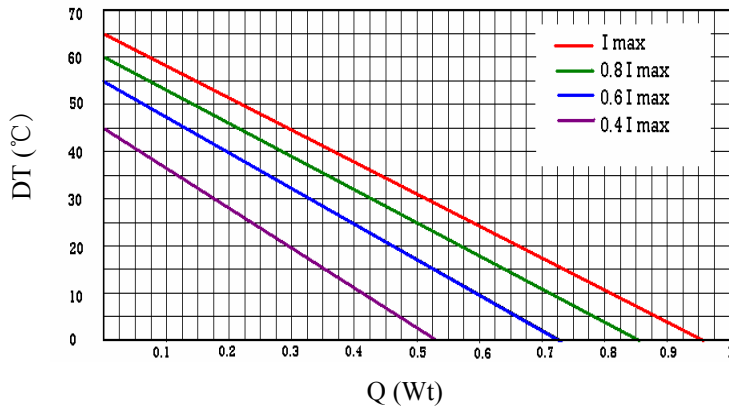
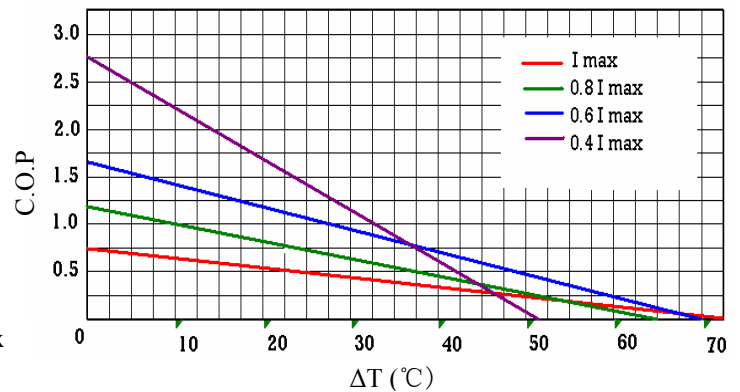

Figure 2. Thermal Load vs. DT ($NP=P/P_{max}$)
Figure 5. Current vs. ΔT
5. Use the charts provided in Figure 2 to Figure 5, to decide which TEC to use, what is the heat needed to be dumped through the heat sink, what is the heat sink temperature, etc.